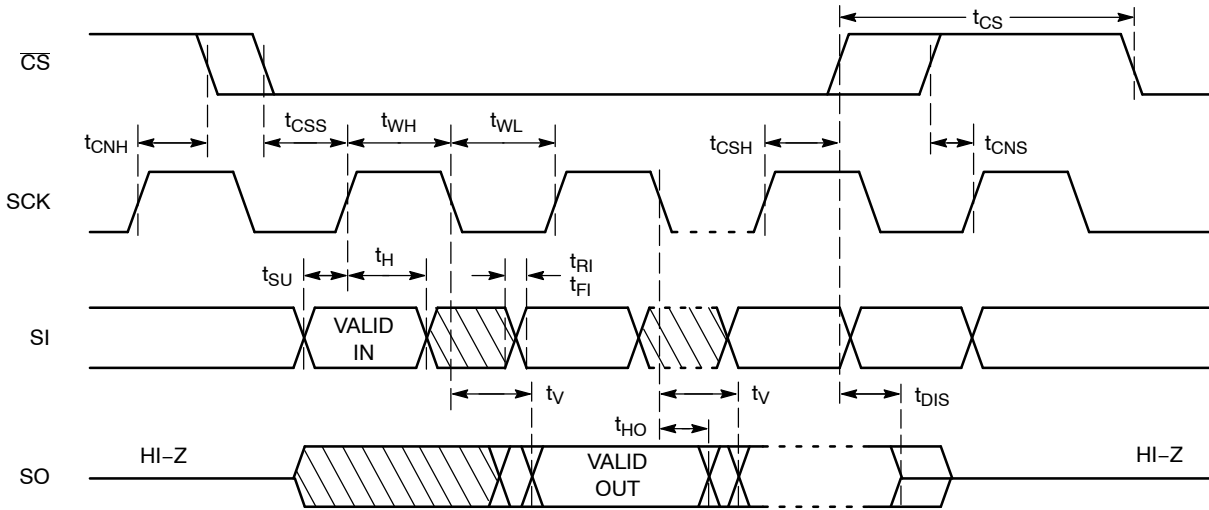

Figure 2. Synchronous Data Timing
7. **All Chip Select (CS) timing parameters are defined relative to the positive clock edge (Figure 2). t_{CSS} timing specification is valid for die revision C and higher. The die revision C is identified by letter "C" or a dedicated marking code on top of the package. For previous product revision (Rev. B) the t_{CSS} is defined relative to the negative clock edge.**
After a high to low transition on the CS input pin, the CAT25080/160 will accept any one of the six instruction op-codes listed in Table 9 and will ignore all other possible 8-bit combinations. The communication protocol follows the timing from Figure 2.